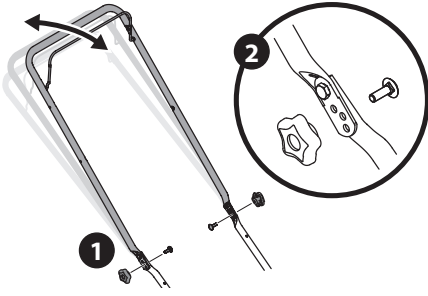

Figure 10
1. Remove wing nuts and carriage bolts from handle (Figure 10).
2. Position the handle in one of the three positions that is most comfortable. See Figure 10 inset.